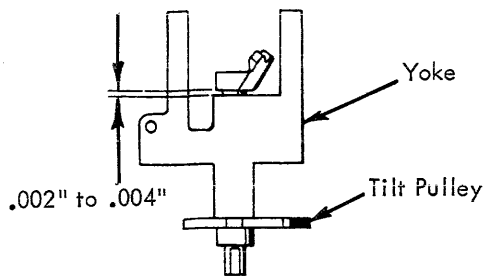

FIGURE 47. Tilt Tube End Play Adjustment
- Tilt Tube End Play - (machines prior to gearless tilt). The tilt pulley should be adjusted up or down on the tilt tube so that .002" to .004" end play exists in the tilt tube (Fig. 47).